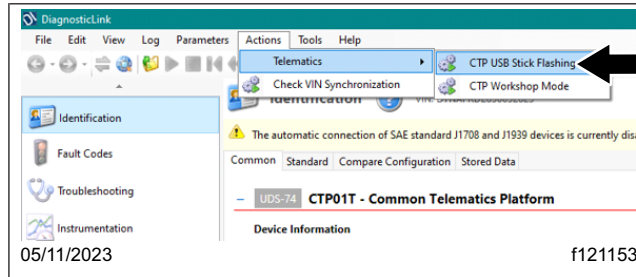

Fig. 9, Opening the CTP USB Stick Flashing Window
10. In the menu bar, go to 'Actions,' select 'Telematics,' then select 'CTP USB Stick Flashing.' See **Fig. 9**.